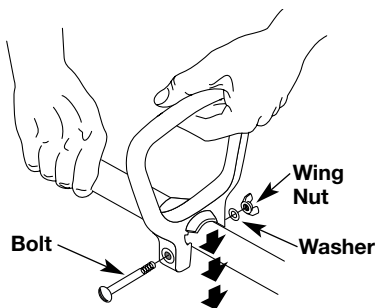

Fig. 1
1. Push the D-handle down onto the shaft housing so that the handle slants to the powerhead (Fig. 1). The squared bolt hole in the handle is to the right.